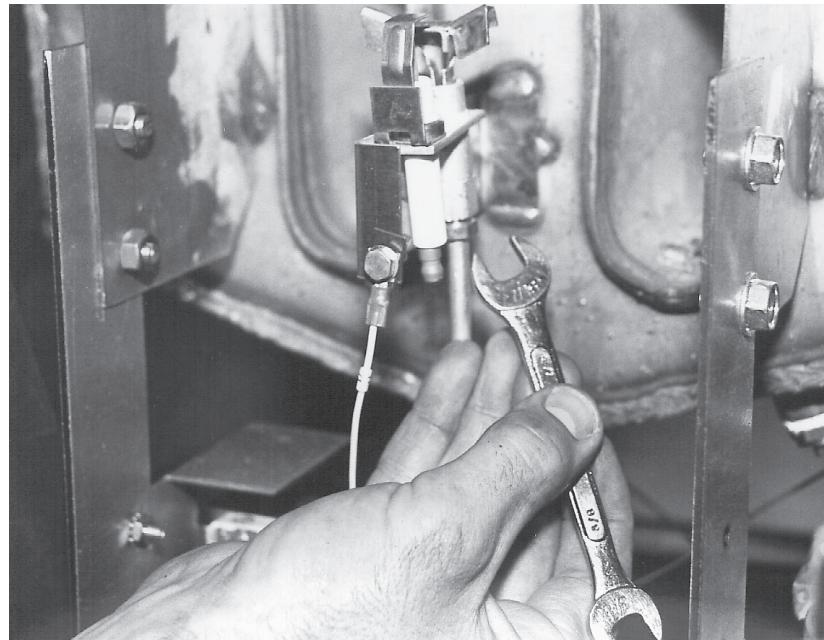

Fig. 38
3. With a  $\frac{7}{16}$ " wrench, loosen the pilot tube holding nut. (Fig. 38)